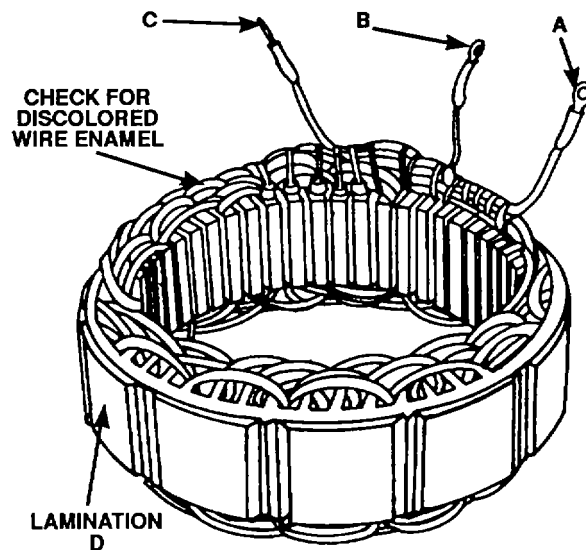

Figure 4-65. Stator Winding Test
3. The stator assembly consists of three individual windings terminated in the delta type connections. Using an ohmmeter or a test lamp, check for winding continuity between terminals A to B, B to C, and C to A (figure 4-65). There should be no continuity from any terminal to point D (laminations).